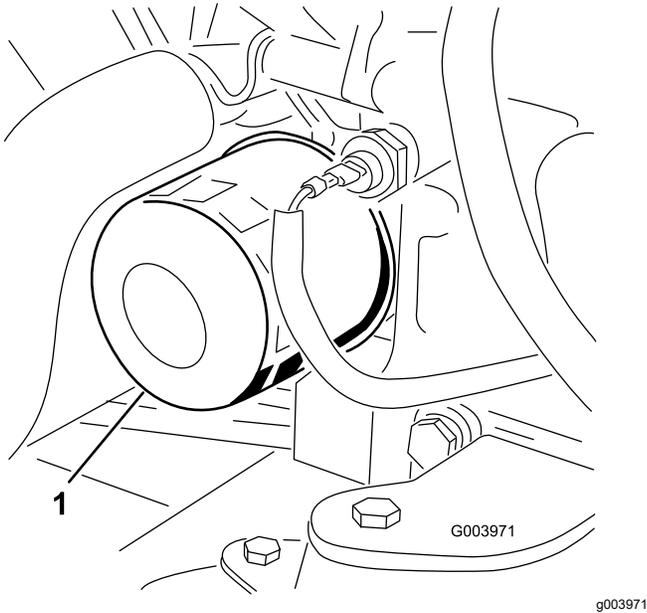

Figure 79
3. Remove the oil filter (Figure 79).